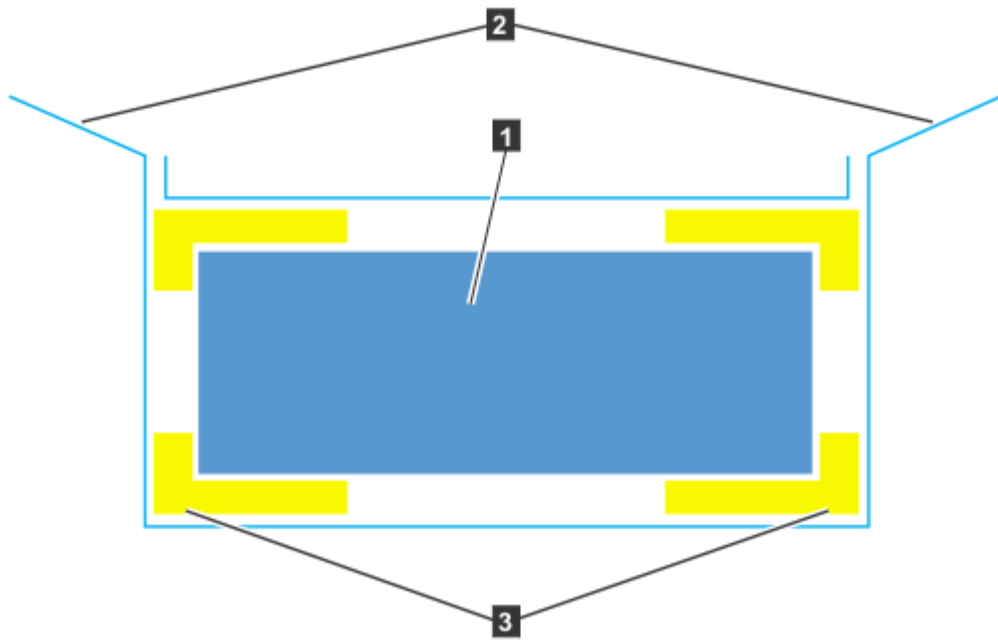

Figure 28. Packaging materials
3. Cut the corners of the shipping box and fold them down to uncover the sides and faces of the expansion enclosure, as shown in Figure 28 on page 41.